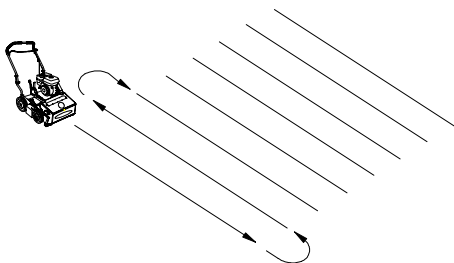
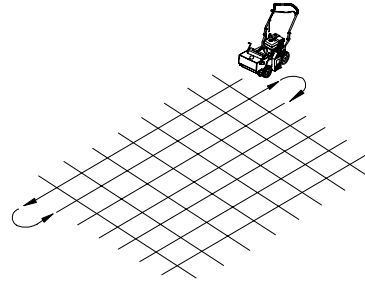

Fig. 1
Fig. 2
**SLICING / OVERSEEDING:** Mow the lawn to shorter than the normal cut height before starting (i.e. approximately 2" tall for fescue grass). For the best result, Slice/Overseed in criss cross pattern (See Fig. 1 and See Fig 2).